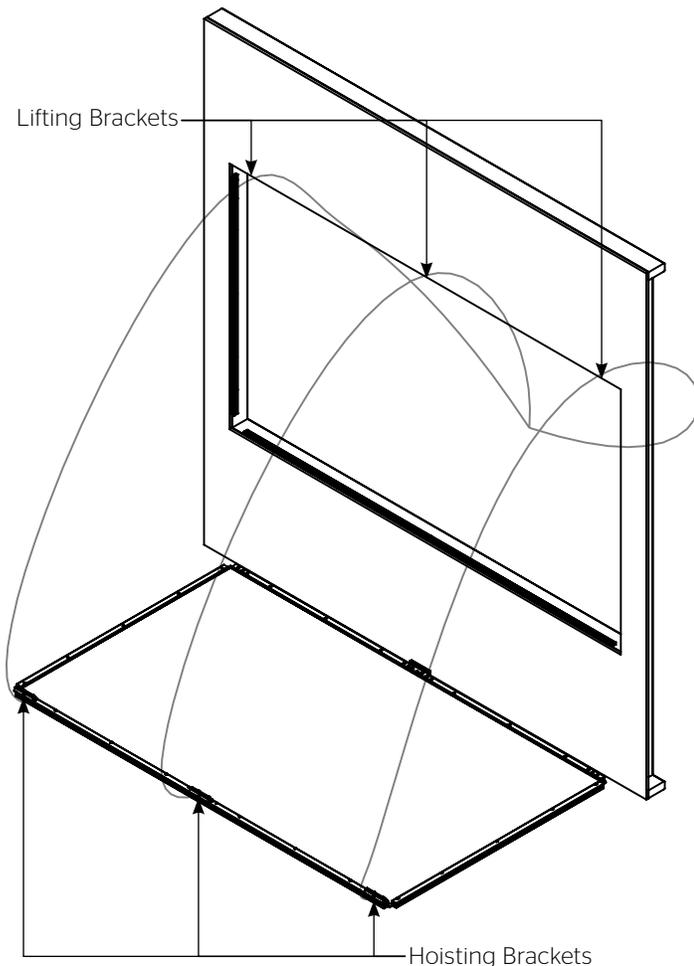

Figure 6
18. Feed the first rope (N) through the large hole on the audience left hoisting bracket (H) so that the knotted end makes contact with the inside of the bracket. Then, feed the rope (N) through the audience left lifting bracket (D) that was installed into the wall opening behind the T-track (B) (See Figure 6).
19. Repeat for the second rope (N) through the center and the third rope (N) through the audience right hoisting (H) and lifting brackets (D) (See Figure 6).